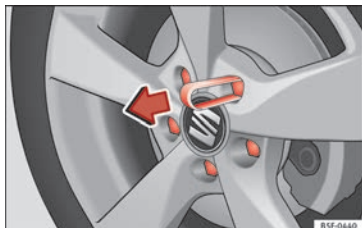

Fig. 183 Wheel: wheel bolts with caps.
- Fit the plastic clip (vehicle tools) over the cap until it clicks into place » **Fig. 183**.